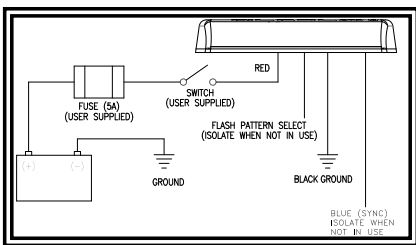

Figure 6
5. Connect the power wires as shown in the wiring section (see Figure 6).
The wiring for the permanent mount minibar is as shown in Figure 6. All wiring should be a minimum of 18AWG. The positive line must have a 5 amp fuse, as shown. A switch may be used to control the on/off function.